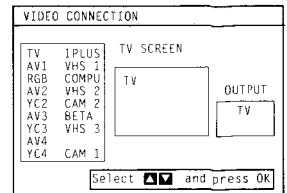

Fig. 44.
- 1 Select Video Connection with Δ + or ∇ - and press OK. The VIDEO CONNECTION menu appears. (See Fig. 44)